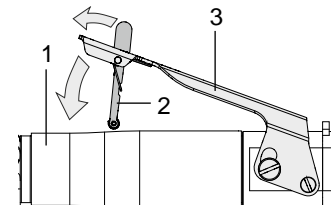

Fig. 6.2 – Operating the switch
- 2) Actuate the locking lever (2). *See Fig. 6.2.*
- 3) This releases the operating lever (3). *See Fig. 6.2.*
- 4) Actuate the operating lever (3). *See Fig. 6.2.*